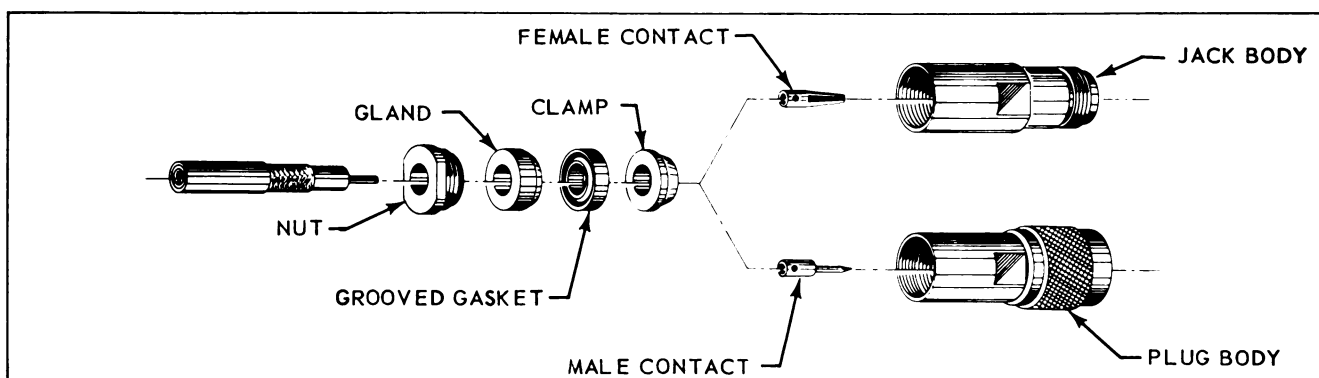
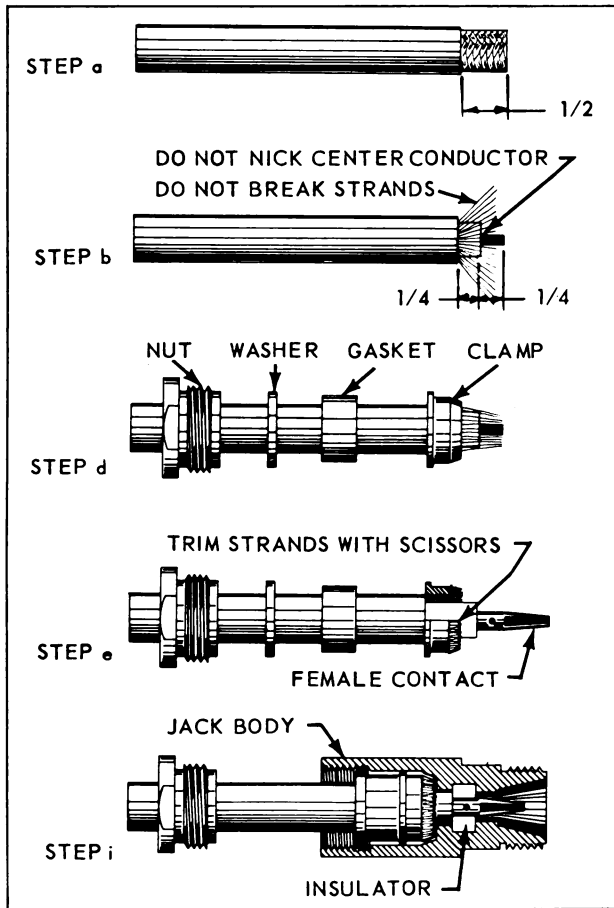

Figure 4-28. Air Force Version N Connectors - Exploded View
Figure 4-30. Attaching Standard N Connectors to Coaxial Cable
b. Air Force Version (See Figure 4-28) - consists of a body assembled to coaxial cable with nut, gland, grooved gasket and clamp. Plug UG-21C/U and Jack UG-23C/U are typical of this version. These differ from the standard version in the shape of the grooved gasket. The gland has a sharp face which cuts into the grooved gasket and thus makes a tight seal.
4-40. ATTACHING STANDARD N CONNECTORS TO COAXIAL CABLE. When attaching standard N connectors to coaxial cable (see Figure 4-30), follow this procedure:
4-41. ATTACHING AIR FORCE N CONNECTORS TO COAXIAL CABLE. When attaching Air Force N connectors at coaxial cable, follow the procedure described in paragraph 4-40 and in Figure 4-30. The stripping dimensions and the assembly sequences are exactly the same as those for Standard N connectors, except that a gland and grooved gasket replace the washer and gasket. See Figure 4-28.